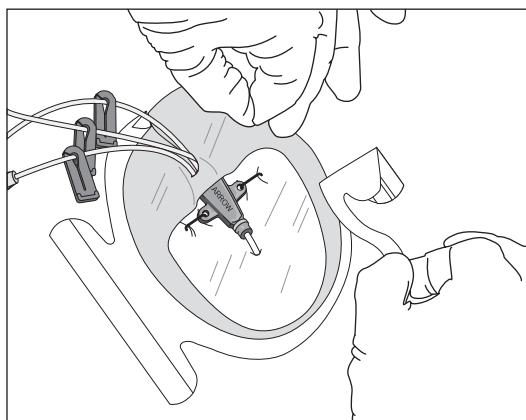

Figure 8
- Slowly remove frame while smoothing down dressing edges. Smooth dressing from center toward edges, use firm pressure to enhance adhesion (refer to Figure 8).